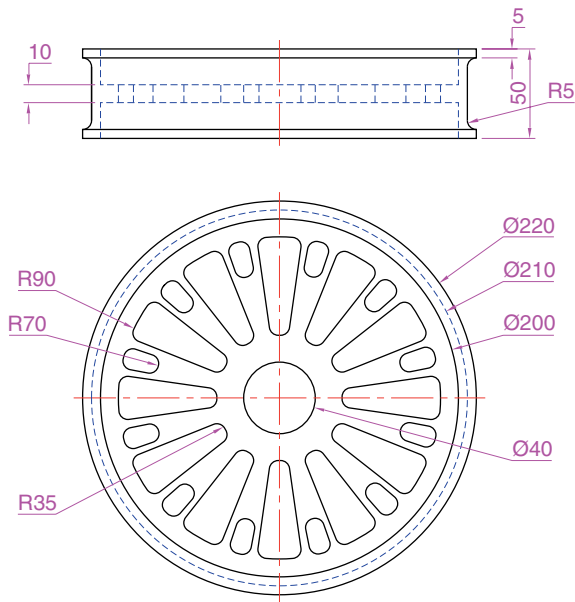

Fig. 19.15 Seventh example – Color faces tool – details of the 3D model
1. Construct a 3D model of the wheel to the sizes as shown in Fig. 19.15.